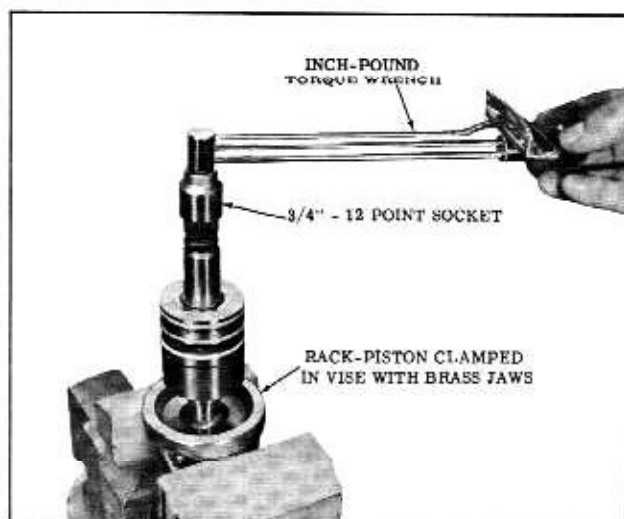

Fig. 4-57 Checking Preload
- d. Using a torque wrench and a 3/4" 12 point socket, check the preload while rotating the torque wrench in a 120° arc. The reading should be 1/16 to 3/16 lbs. (Fig. 4-57)